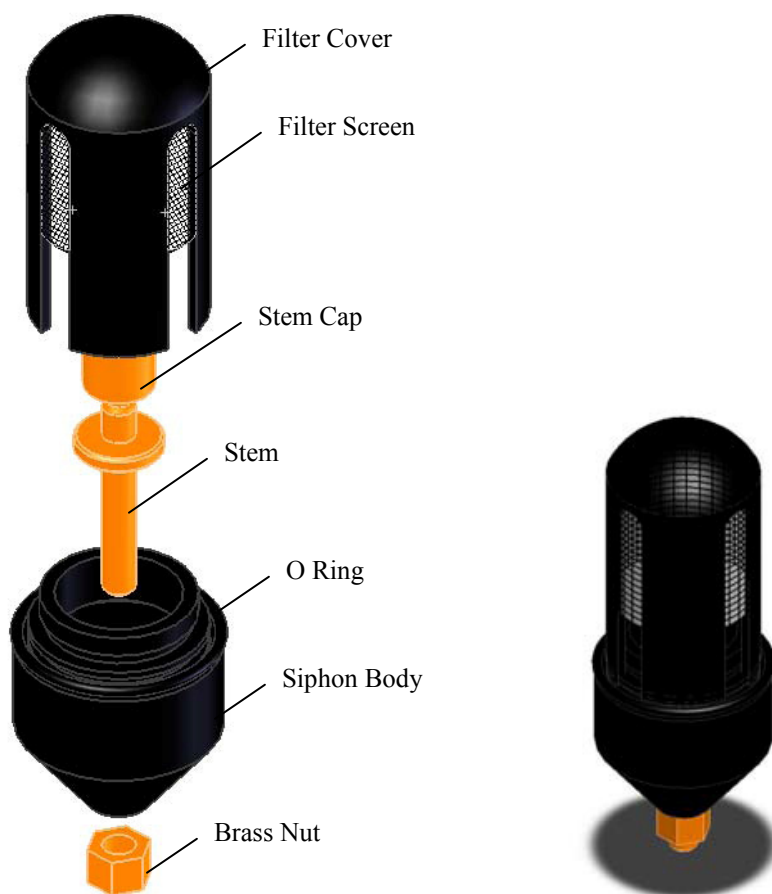

FIGURE 7-3. Filter/Siphon Assembly
- Catch filter (see Figure 7-3)
- Siphon (see Figure 7-3)
3. Disassemble the filter/siphon assembly by doing the following (see Figure 7-3):
1. Screw cap on stem, finger tighten only (see Figure 7-3).
2. Push stem into siphon body (see Figure 7-3).
3. Replace nut and tighten (see Figure 7-3).